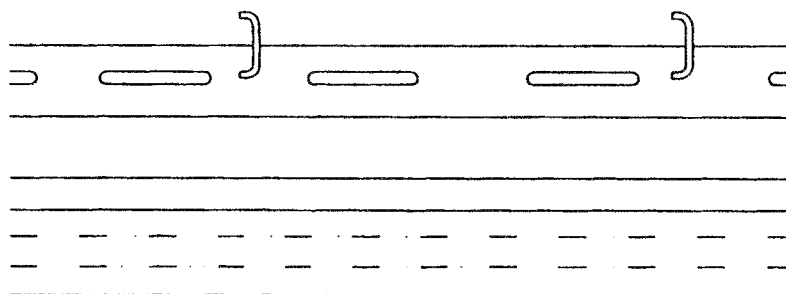

FIG. 1
- C. Secure starter strip by fastening tightly at 6" - 8" intervals through the material if using a staple or nail slot if using nails. (See Figure 1)